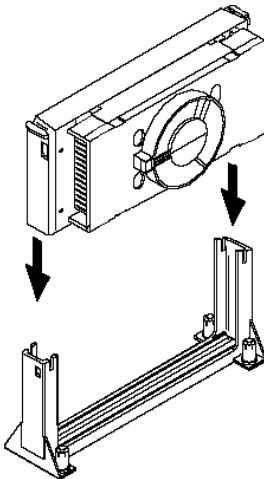

Fig. 1
**For Pentium II CPUs:** Locate SLOT 1. Attach the Retention Mechanism as illustrated below. (Fig.1)
1. Slide the CPU down into the retention mechanism. Make sure the CPU is correctly oriented. (Fig. 1)